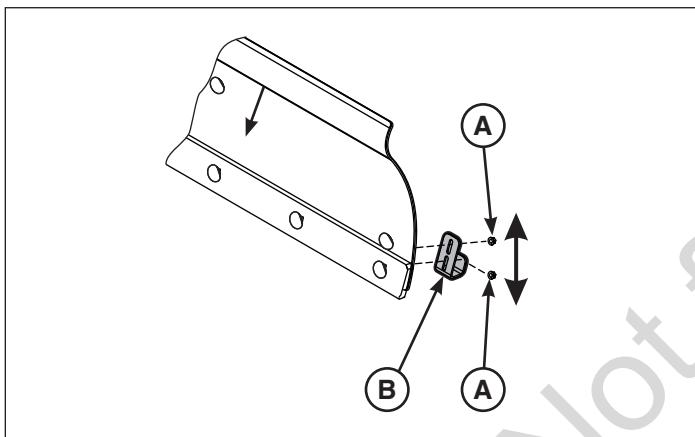

Figure 27
2. Loosen the nuts (A, Figure 27) securing the skid shoes (B).